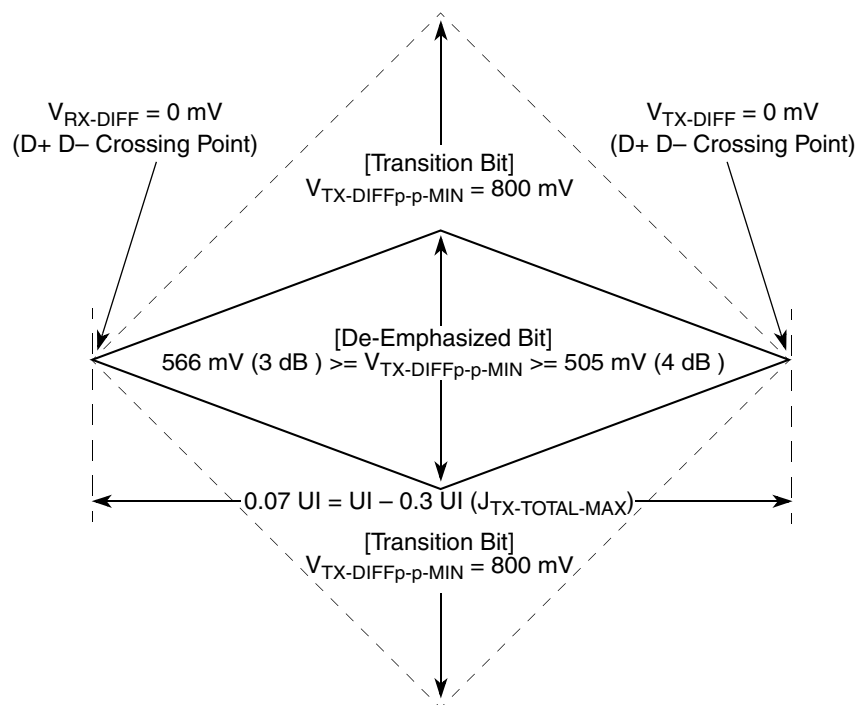
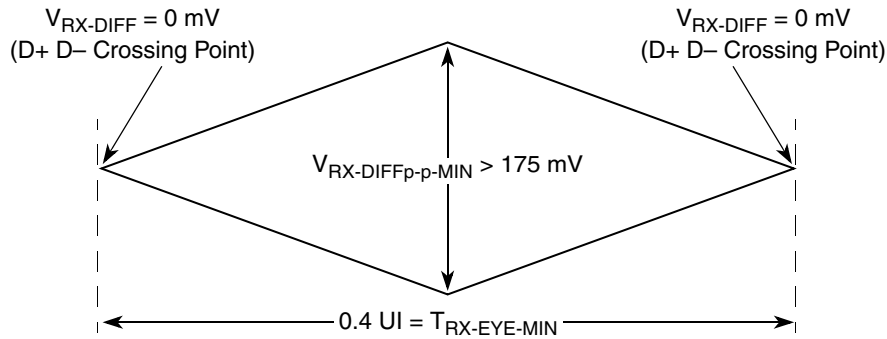
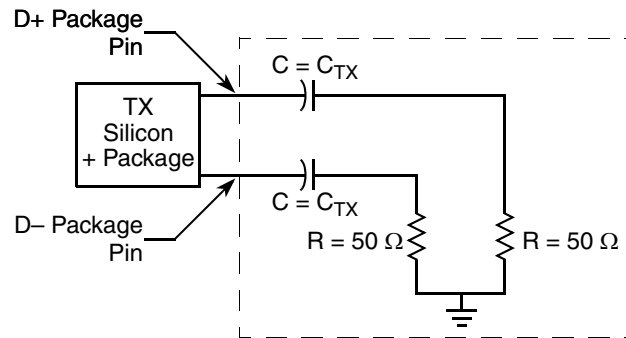

Figure 50. Minimum Transmitter Timing and Voltage Output Compliance Specifications
Figure 51. Minimum Receiver Eye Timing and Voltage Compliance Specification
Figure 52. Compliance Test/Measurement Load
2. Specified at the measurement point into a timing and voltage compliance test load as shown in Figure 52 and measured over any 250 consecutive TX UIs. (Also refer to the transmitter compliance eye diagram shown in Figure 50)
4. The Transmitter input impedance shall result in a differential return loss greater than or equal to 12 dB and a common mode return loss greater than or equal to 6 dB over a frequency range of 50 MHz to 1.25 GHz. This input impedance requirement applies to all valid input levels. The reference impedance for return loss measurements is 50 Ω to ground for both the D+ and D- line (that is, as measured by a Vector Network Analyzer with 50 ohm probes—see Figure 52). Note that the series capacitors C_{TX} is optional for the return loss measurement.
5. Measured between 20-80% at transmitter package pins into a test load as shown in Figure 52 for both V_{TX-D+} and V_{TX-D-} .
The TX eye diagram in Figure 50 is specified using the passive compliance/test measurement load (see Figure 52) in place of any real PCI Express interconnect + RX component.
- Specified at the measurement point and measured over any 250 consecutive UIs. The test load in Figure 52 should be used as the RX device when taking measurements (also refer to the Receiver compliance eye diagram shown in Figure 51). If the clocks to the RX and TX are not derived from the same reference clock, the TX UI recovered from 3500 consecutive UI must be used as a reference for the eye diagram.
- The Receiver input impedance shall result in a differential return loss greater than or equal to 15 dB with the D+ line biased to 300 mV and the D- line biased to -300 mV and a common mode return loss greater than or equal to 6 dB (no bias required) over a frequency range of 50 MHz to 1.25 GHz. This input impedance requirement applies to all valid input levels. The reference impedance for return loss measurements for is 50 Ω to ground for both the D+ and D- line (that is, as measured by a Vector Network Analyzer with 50 ohm probes - see Figure 52). Note: that the series capacitors C_{TX} is optional for the return loss measurement.
The RX eye diagram in Figure 51 is specified using the passive compliance/test measurement load (see Figure 52) in place of any real PCI Express RX component.
Note: In general, the minimum Receiver eye diagram measured with the compliance/test measurement load (see Figure 52) will be larger than the minimum Receiver eye diagram measured over a range of systems at the input Receiver of any real PCI Express component. The degraded eye diagram at the input Receiver is due to traces internal to the package as well as silicon parasitic characteristics which cause the real PCI Express component to vary in impedance from the compliance/test measurement load. The input Receiver eye diagram is implementation specific and is not specified. RX component designer should
provide additional margin to adequately compensate for the degraded minimum Receiver eye diagram (shown in Figure 51) expected at the input Receiver based on some adequate combination of system simulations and the Return Loss measured looking into the RX package and silicon. The RX eye diagram must be aligned in time using the jitter median to locate the center of the eye diagram.
The reference impedance for return loss measurements is 50Ω to ground for both the D+ and D- line (that is, as measured by a Vector Network Analyzer with 50Ω probes—see Figure 52). Note that the series capacitors, C_{TX} , are optional for the return loss measurement.
The AC timing and voltage parameters must be verified at the measurement point, as specified within 0.2 inches of the package pins, into a test/measurement load shown in Figure 52.